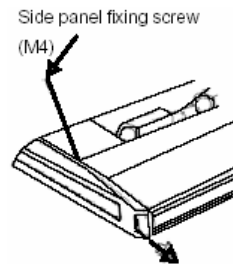

Fig.3
- Remove the side panel fixing screw and pull to the front direction (arrow direction) to remove. Side panel fixing screw (Refer to Fig.3).